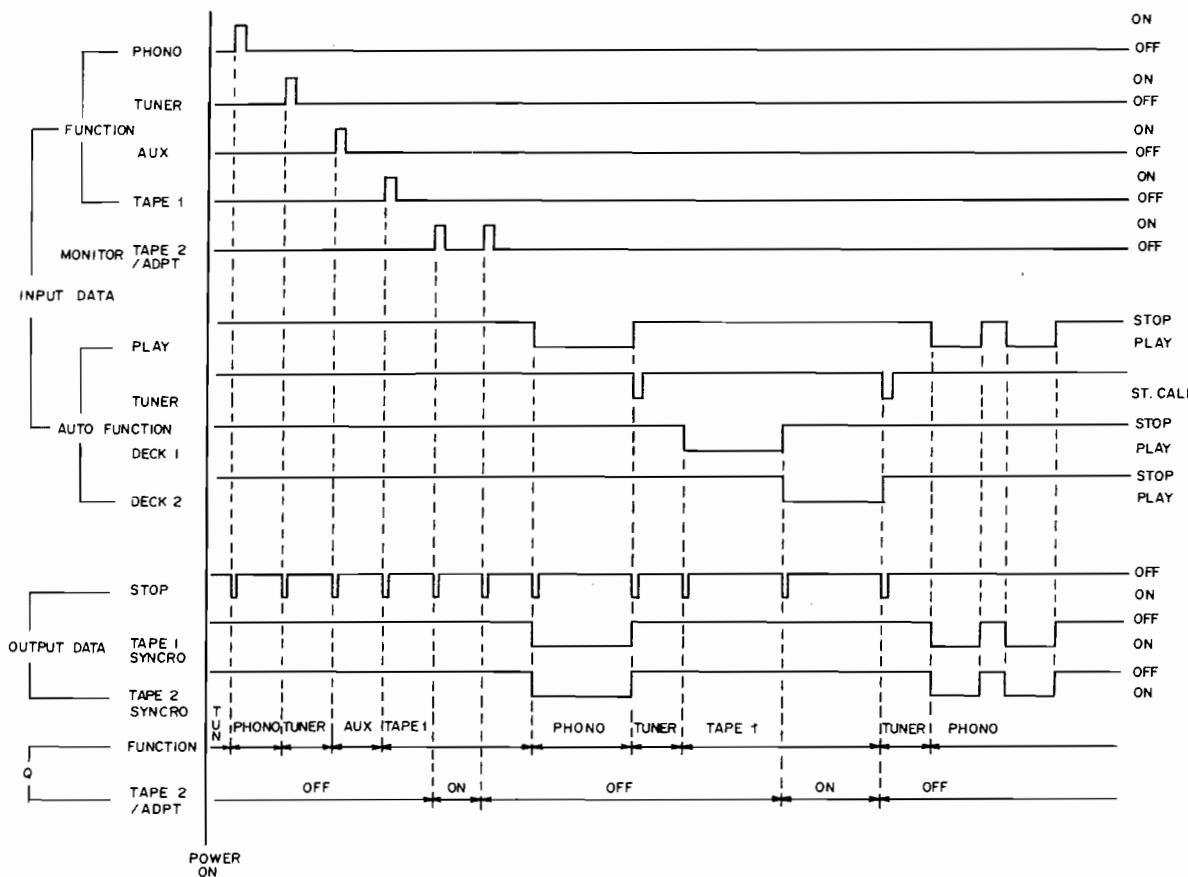

Fig. 8-3 Function switching timing chart
- S205-1 is switched on when the first position of the UP volume switch (S205) is pressed. A voltage divided according to the resistance ratio shown in Fig. 8-3 is applied to the base of Q5 to switch that transistor on.
- If the UP switch is pressed further, S205-2 is also switched on, resulting in a voltage divided according to the resistance ratio shown in Fig. 8-3 being applied to the base of Q5.
- S204-2 is switched on when the DOWN switch (S204) is pressed to the first position. A negative voltage divided according to the resistance ratio shown in Fig. 8-3 is applied to the base of Q7 to switch that transistor on.
3. If the DOWN switch is pressed further, S204-1 is also switched on, resulting in a voltage divided according to the resistance ratio shown in Fig. 8-3 being applied to the base of Q7.